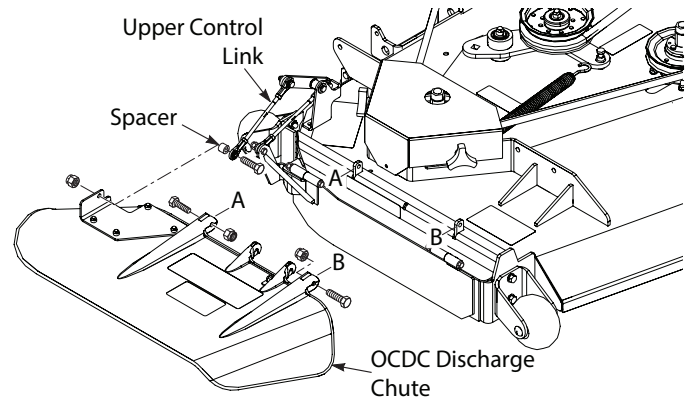

Figure 3-32. OCDC Discharge Chute Installation
20. Install the OCDC discharge chute to the cutter deck. Secure using two (2) 5/16-18 x 1-3/4" bolt and two (2) 5/16-18 elastic stop nuts. See Figure 3-32.
22. Secure the upper control link to the OCDC discharge chute using one (1) 5/16-18 x 1-1/2" bolt and one (1) 5/16-18 elastic stop nut.